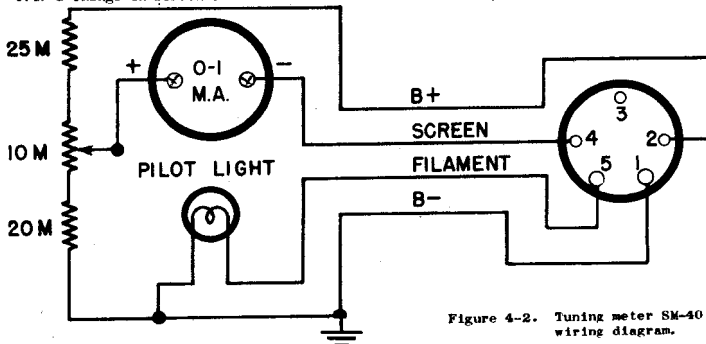

Figure 4-2. Tuning meter SM-40 and schematic wiring diagram.
**1. Tuning Meter.** - The tuning meter "S METER" is not supplied with the receiver, but can be purchased on request from the company. Provision has been made on the rear apron of the receiver for the external connection of the "S" meter. A five prong plug is wired to the meter as indicated in figure 4-2 and should be plugged into socket S0-2. When metering reception, the meter measures a voltage drop across resistor R-27 e. i. a change in screen current of first and second i-f amplifier tubes V-4 and V-3.